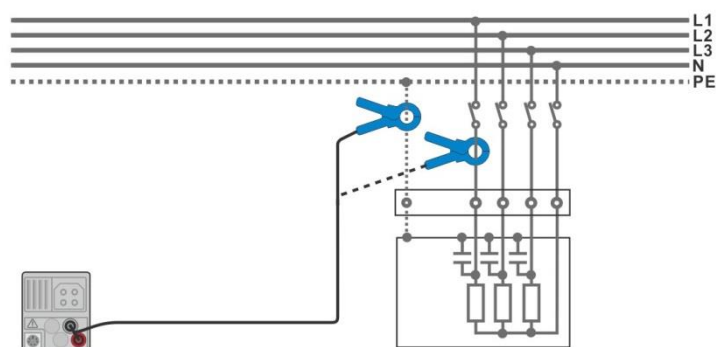

Figure 7.75: PE leakage and load current measurements
- › Connect the clamp to the object under test, see **Figure 7.75**.